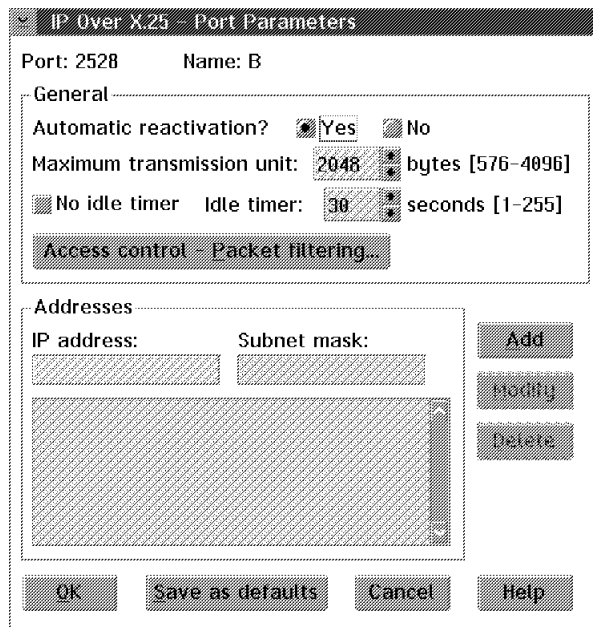

Figure 10-4. IP over X.25 - Port Parameters Window
**Step 19.** Click on **IP parameters** → **IP over X.25 - Port Parameters** window (see Figure 10-4)